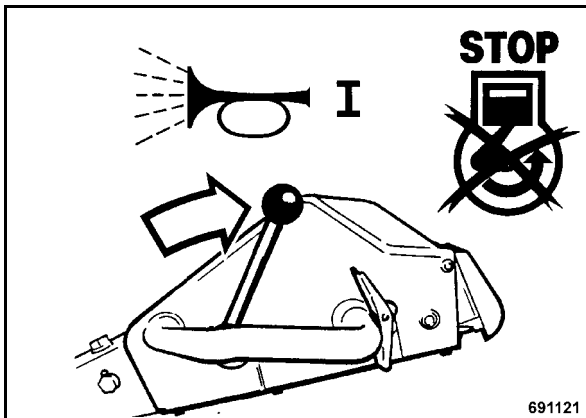

Fig. 40
- Set the throttle lever to position "STOP" (Fig. 40), the warning buzzer sounds.